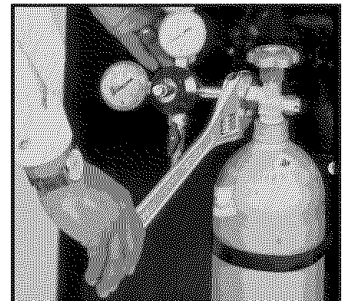

Fig. 4
- 6. Installation of CO₂ Regulator:** Attach the CO₂ Regulator to the CO₂ cylinder by screwing the regulator nut onto cylinder valve and tighten (snug) using an adjustable wrench. **See Fig. 4**